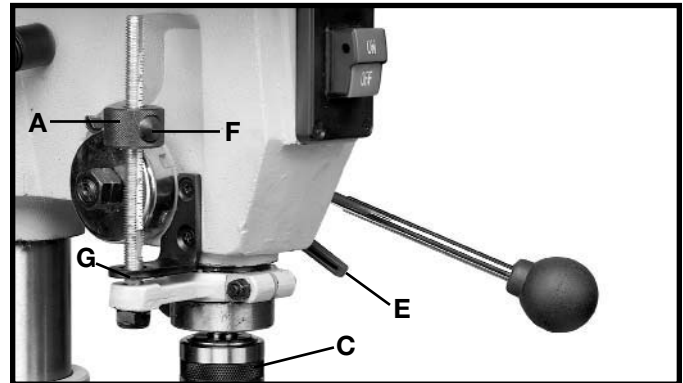

Fig. 25
Where a number of holes are to be drilled to exactly the same depth, the stop nut (A) Fig. 25, on the threaded stop rod (B) is used as follows:
3. Lower the chuck (C) Fig. 25, to the depth you wish the holes to be drilled. Then lock the quill in position by tightening quill locking lever (E). **NOTE:** Quill locking lever (E) is spring-loaded and can be repositioned by pulling out on the handle and repositioning the hub of the handle on the bolt located underneath the hub.
4. Depress spring-loaded button (F) Fig. 25, and rapidly move stop nut (A) until bottom of nut (A) contacts stop (G). Then hold the pinion shaft handle and loosen quill locking lever (E), the chuck and quill will return to the up position by gradually allowing the pinion shaft handles to rotate to the return position.
6. Drill a test hole to check the depth and readjust if necessary by rotating stop nut (A) Fig. 25, for fine adjustment. It is not necessary to depress button (F) while rotating stop nut (A) for fine adjustment.